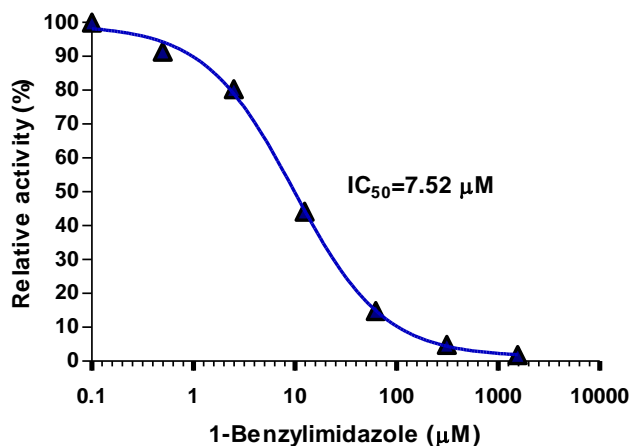

Figure 2. 1-Benzyl-Imidazole inhibition of Glutaminyl Cyclase activity measured with SensoLyte[®] Green Glutaminyl Cyclase Activity Assay Kit.
- 3.6 An example of the inhibition of Glutaminyl Cyclase by 1-Benzylimidazole is shown in Figure 2.